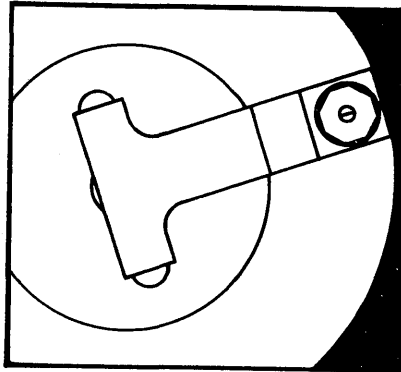

Figure 2-4 Locking Latch in Locked (Diagonal) Position
3. Locate the silver locking latch. It is in a diagonal position and attached to a round disk. The latch is now in the locked position. See Figure 2-4.